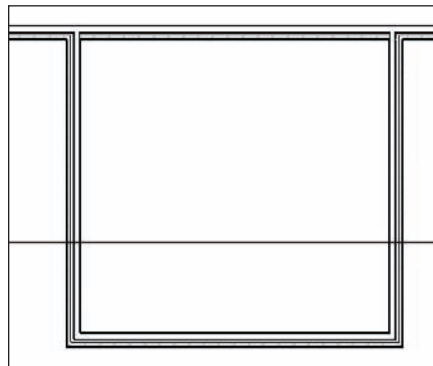

FIGURE 4.3 Moving the wall 2’-6” also means that any adjoining walls will be adjusted along with it.
8. Type in the value 2’-6” and press Enter. The wall has moved 2’-6”. Notice the adjacent walls move with it. In Revit, there is no stretch command (see Figure 4.3).